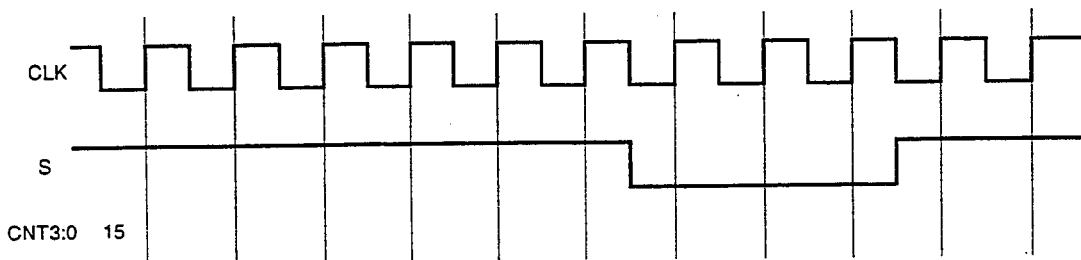

Figure 7.2
a) Figure 7.2 shows the timing diagram for the signals CLK and S. Complete the timing diagram showing the signals CLK, S, X, SCLK and CNT3:0 given that N3:0 = 13. The initial state of CNT3:0 is 15 as shown.